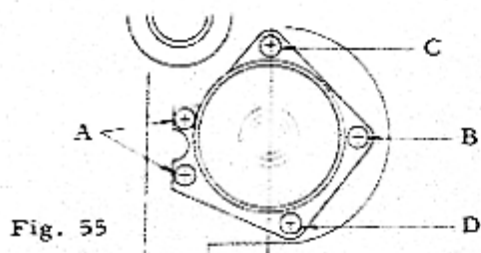

Fig. 55
- 2) Mount 3-70201 Field of View Glass-1Z on Zoom Lens Unit. See Fig. 55.